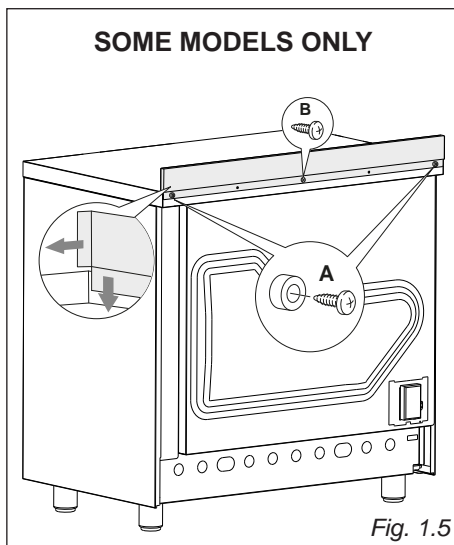

Fig. 1.5
Before installing the cooker, assemble the backguard "C" (fig. 1.5).
- Assemble the backguard as shown in figure 1.5 and fix it by screwing the central screw "B" and the spacers "A".